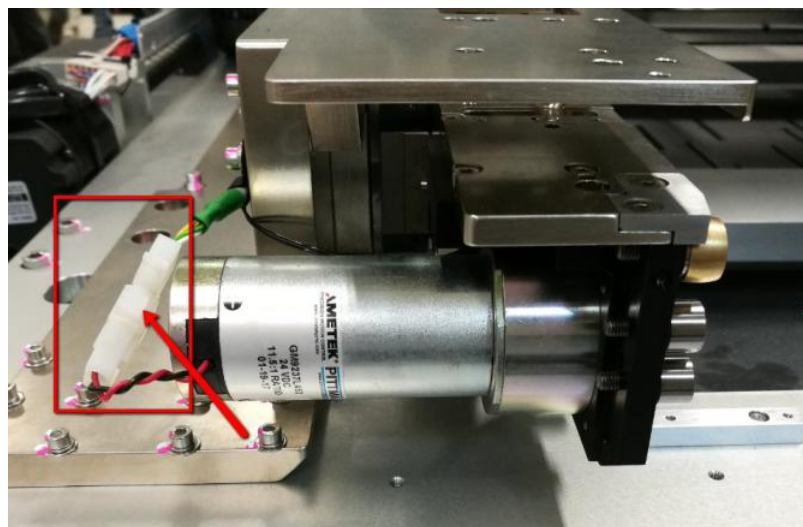

Figure 4 Conveyor Motor Connector
6. Unplug Conveyor Motor Connector as shown in Figure 4.